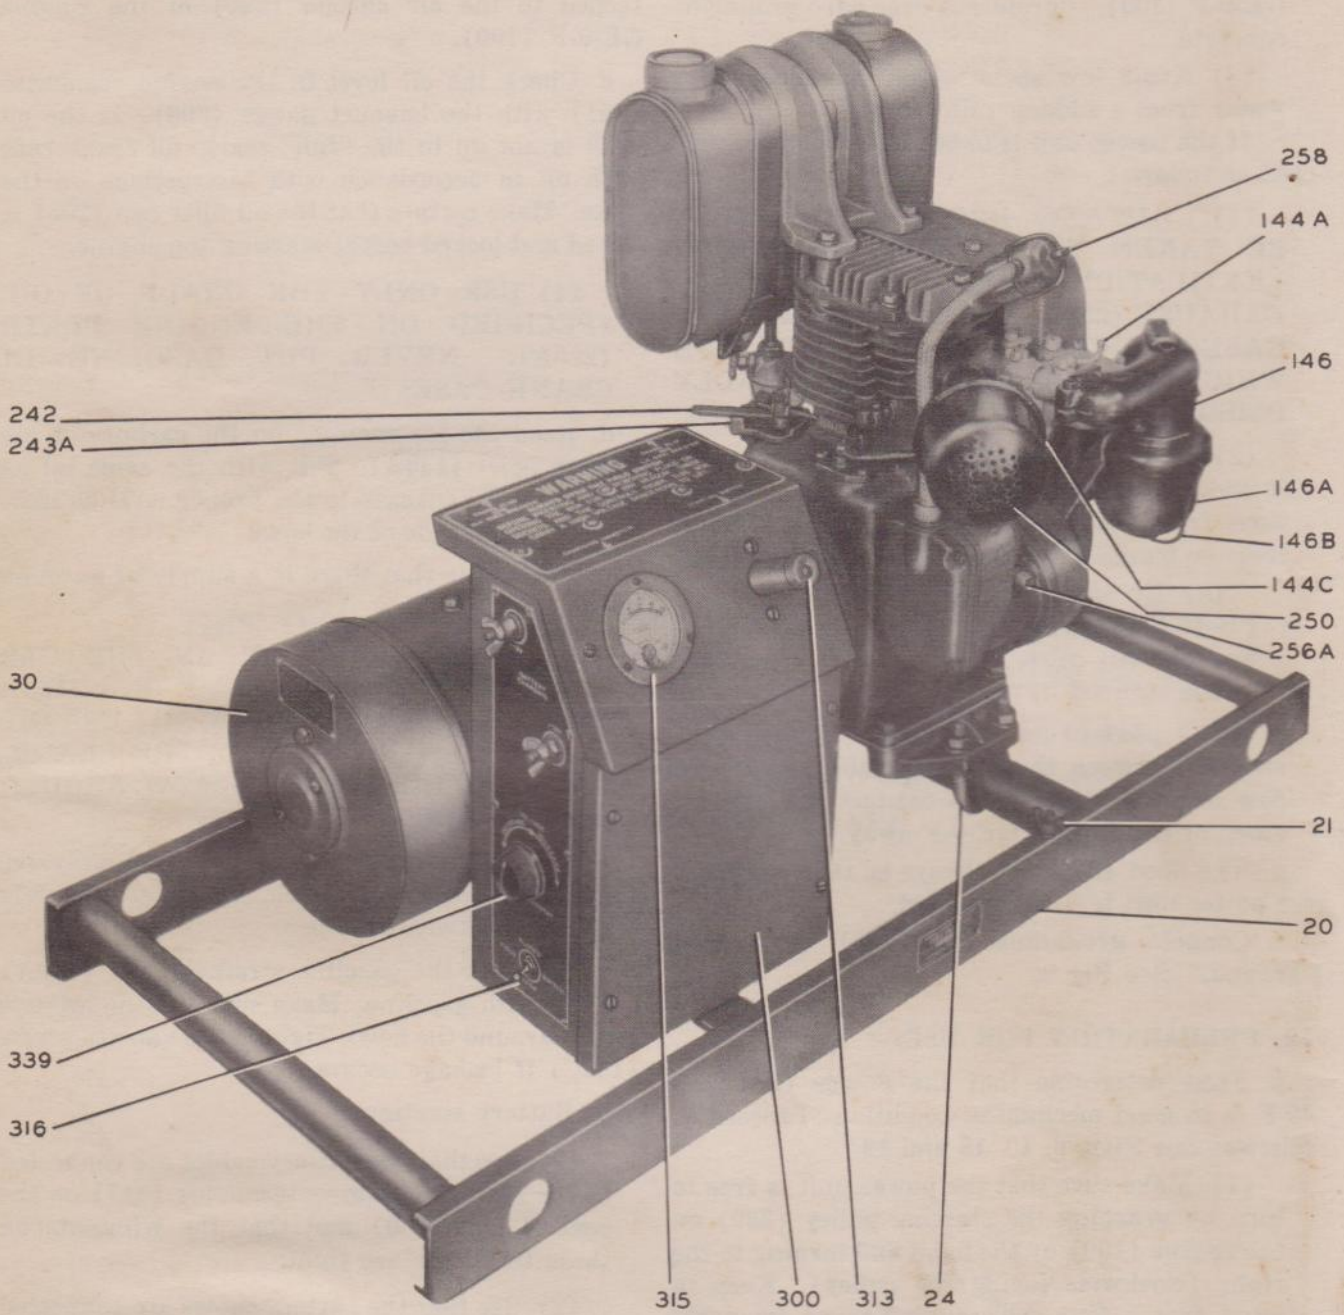

FIG. 9 POWER UNIT PE-49-F—FROM CONTROL BOX SIDE
(3) A piece of leader pipe, or any pipe large enough, between the muffler (250) and a window or door will help to conduct the exhaust gases of the Engine GE-9-F away.
d. The hood (3) must always be removed when the power unit is to be operated.
e. Connect grounding stud (21) to a good "ground." See Fig 9.
a. First determine that the Power Unit PE-49-F is in good mechanical condition. Proceed as follows: See Figs. 9, 10, 18 and 19.
(1) Make sure that the power unit is free to turn by grasping the starting pulley (239) on the engine (100) by the hand and turning to the right (clockwise facing the pulley). Keep in mind that a four cycle engine turns comparatively easy for about one and one-half revolutions but due to compression in the cylinder is hard to turn for approximately one-half turn. The resistance to turning due to compression is easily distinguished from mechanical obstructions as it is cushioned.
(2) Give the power unit a thorough visual inspection to make sure that no parts are broken, bent, or missing.
(3) Go over all bolts, nuts, and screws, and make sure that they are tight. Pay particular attention to the drain plug (253) and bolts holding the cylinder head (102).
b. Read the instructions on plate (220A) attached to the air shroud (220) of the Engine GE-9-F (100).
c. Check the oil level in the engine crankcase (101) with the bayonet gauge (208). If the oil level is not up to the "full" mark, fill crank case with oil in accordance with instructions on the plate. Make certain that the oil filler cap (208) is closed and locked before starting the engine.